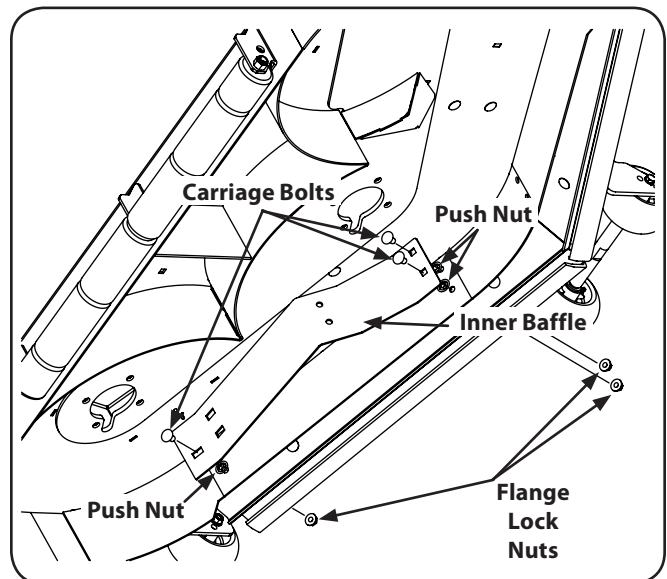

Figure 6-7
1. Remove the carriage bolts, push nuts and flange lock nuts that secure the baffle to the deck to mow high-volume grasses. See Fig. 6-7.